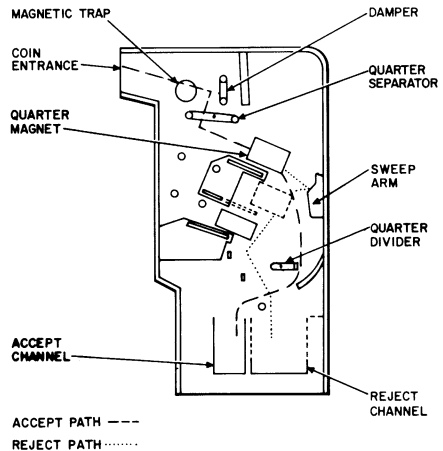

Fig. 4—Quarter Path in a Typical Coin Chute
##### 2.05 Quarter Operation—Valid Coin Accepted (Fig. 4).
- (1) Quarter is deposited in coin entrance and passes magnetic trap.
- (2) Quarter continues and is checked for size and weight as the quarter separator rotates.
- (3) Quarter is channeled into the quarter magnet area.
- (4) The quarter magnet sets up an eddy current effect which slows its movement down the chute.
- (5) Quarter strikes the right side (as viewed in Fig. 4) of quarter divider and is accepted.
##### 2.06 Quarter Operation—Coin Rejected (Fig. 4).